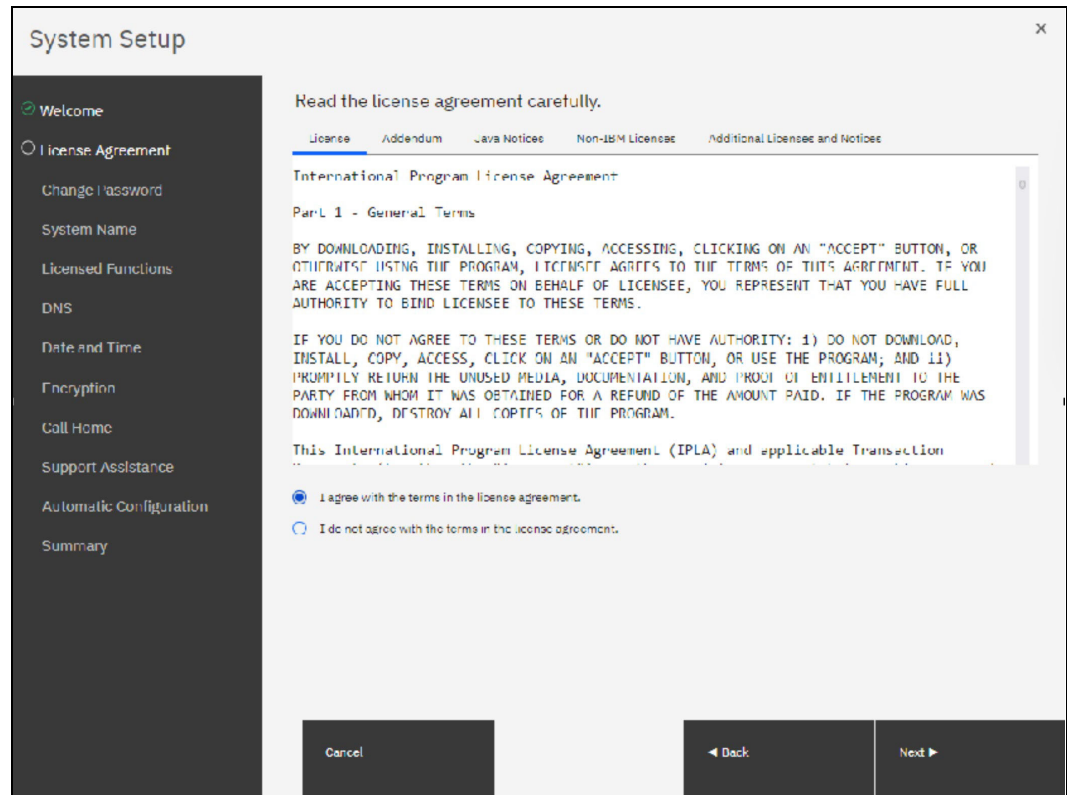

Figure 2-25 Accept License Agreement
11. Clicking **Next** brings you to the License agreement page. Carefully read the license agreement. Select **I agree with the terms in the license agreement** if you want to continue the setup, otherwise the system will stop the setup. See Figure 2-25 on page 36.